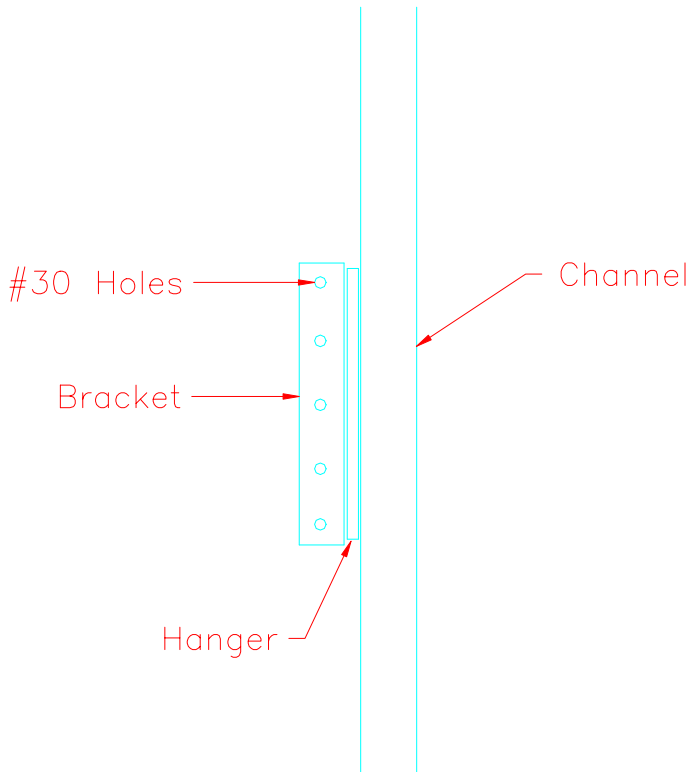

Figure 15.8.12
22) Out of .032 material make a bracket to fit over the side of the hanger and has a 1/2" flange to tie into the roof. Layout and drill 5 #30 holes on the bracket flange. Figure 15.8.12.
25) Drill the five #30 holes through the bracket and roof. Figure 15.8.12.